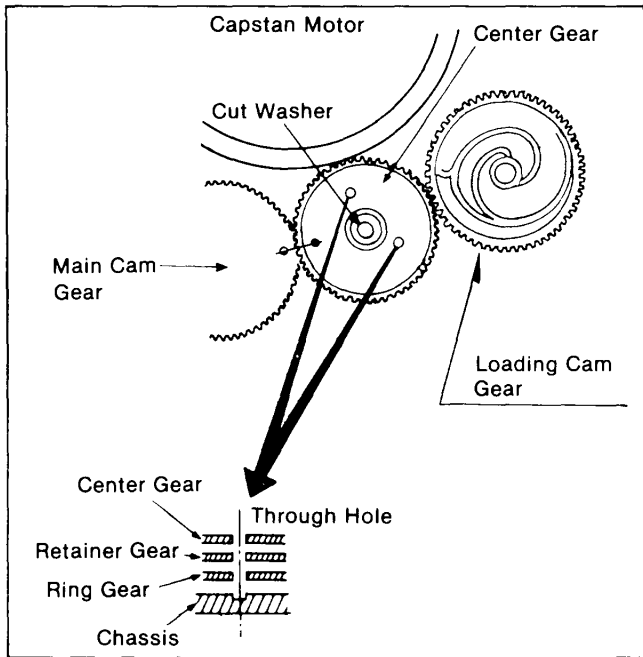

Figure M51
1. Softly Install the Center Gear onto the Retainer Gear so that the two holes in the Center Gear align with the holes on the Retainer Gear, then install the cut washer as shown in Figure M51.